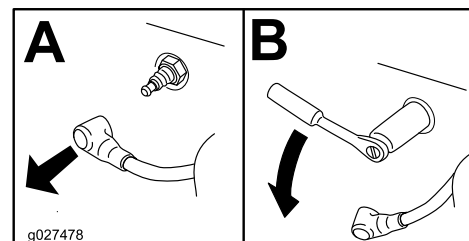

Figure 37
2. Remove the spark plug as shown in Figure 37.